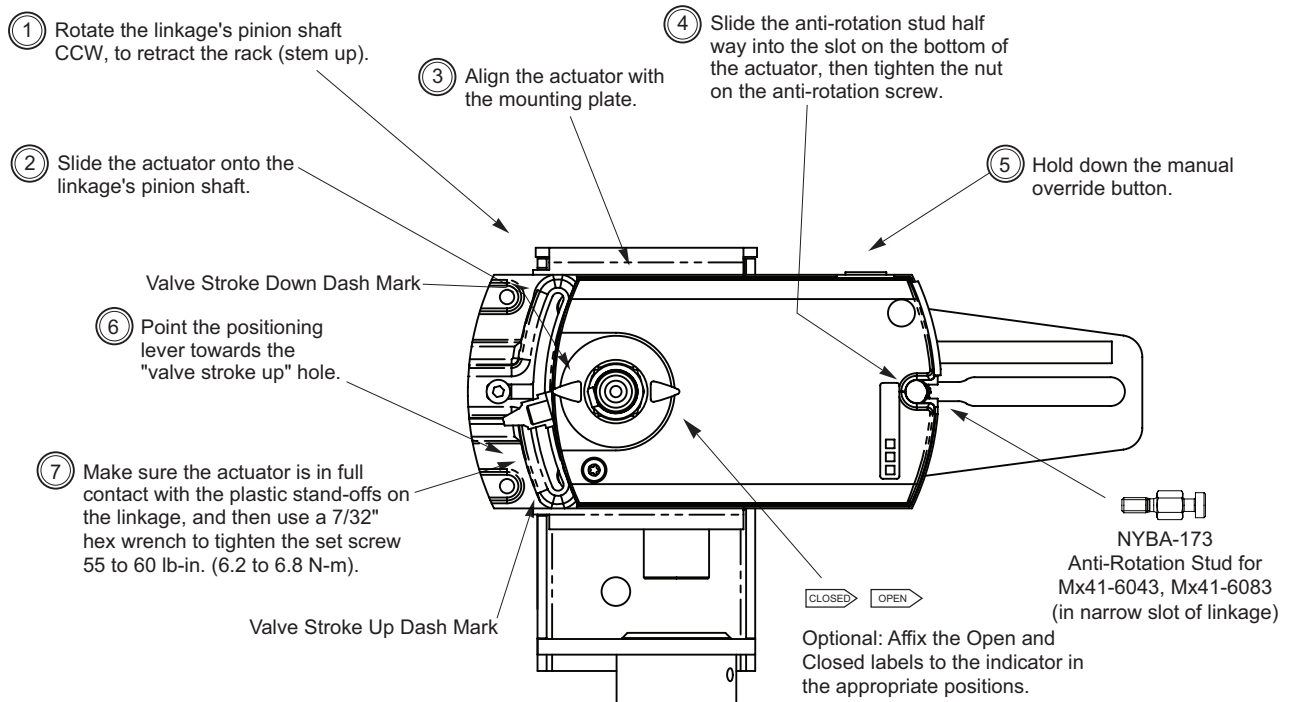

Figure-3 Mounting Mx41-6043 and Mx41-6083 Actuators and Setting Up Actuator/Linkage/Valve Assembly
- a. Confirm that the NYBA-173 anti-rotation stud is installed in the narrow slot of the linkage (refer to Figure-1 on page 3). Install the actuator onto the linkage and valve and set up the assembly as shown in Figure-3.